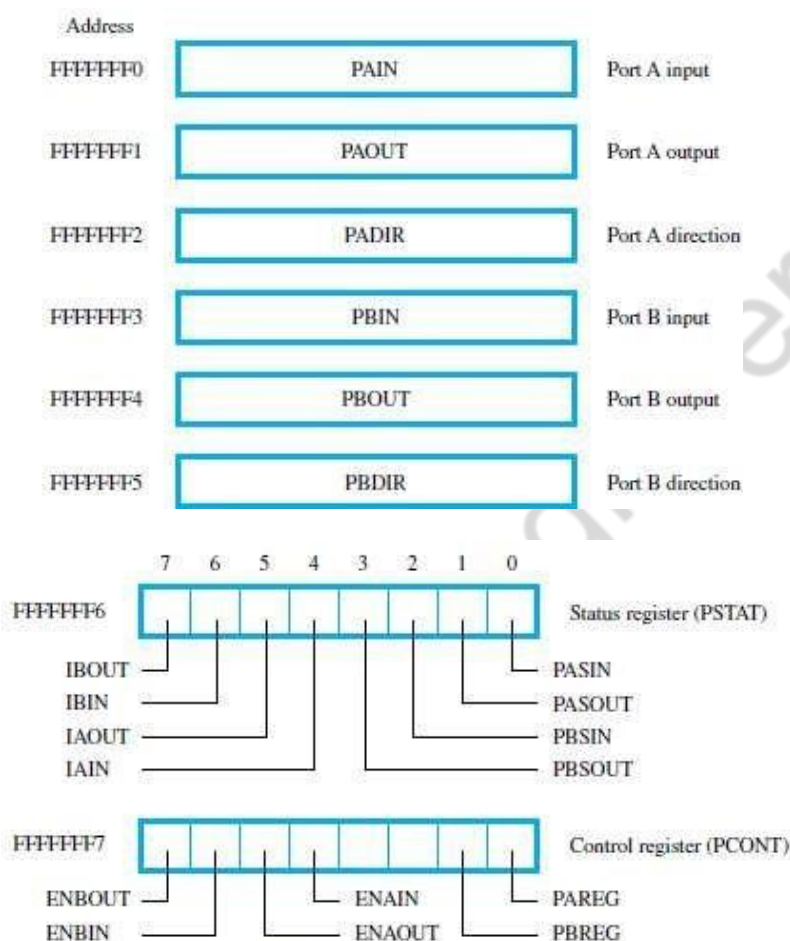

Figure 10.6 Parallel interface registers.
- **Addressable Registers** are (Figure 10.6):
• PASIN = 1 □ When there are new data on port A (Figure 10.6).